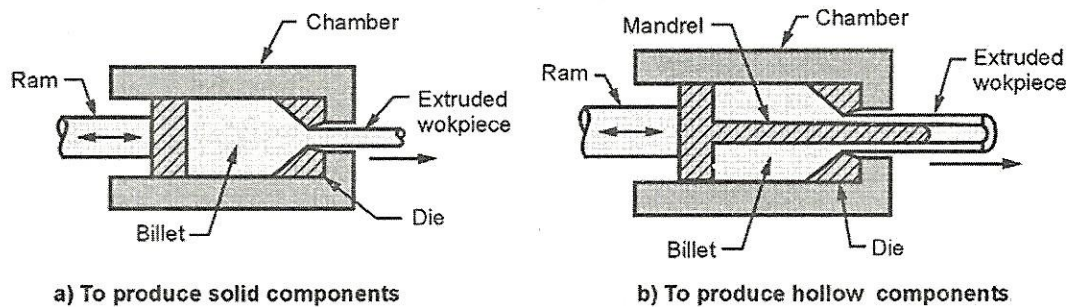

Fig. 3.39 : Direct extrusion
- Figure 3.39 shows the direct extrusion process in which the raw material is a billet.
- To produce hollow sections, by direct extrusion process, a mandrel is used. Refer figure 3.39 (b).